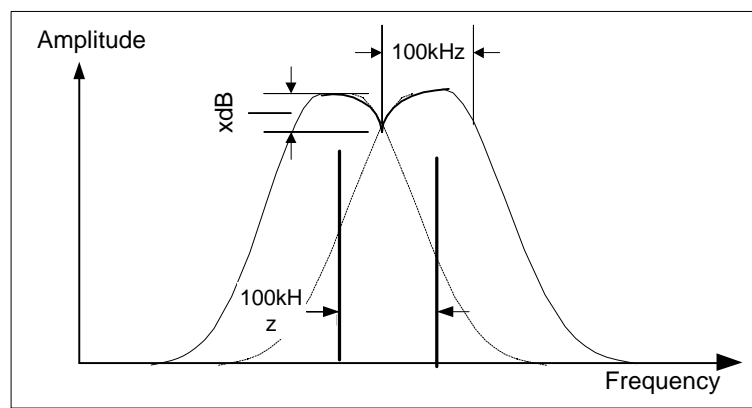

Figure 3 Measuring the depth of the dip
4. Since the resolution bandwidth must be less than or equal to the frequency separation of the two signals, a resolution bandwidth of 100 kHz must be used. Change the resolution bandwidth to 100 kHz by pressing BW 100 kHz. Two signals are now visible as indicated Figure 3. Use the knob or step keys to further reduce the resolution bandwidth and span to better resolve the signals **Save the data on magnetic media.**